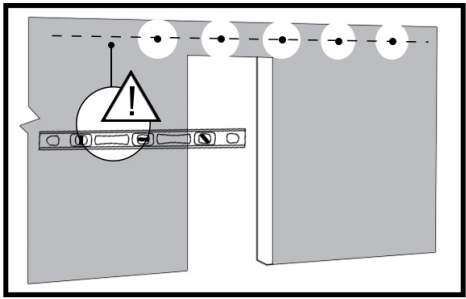

FIGURE 9
- Place the track in position using the marks made in the previous step, and ensure the track is level. Using the track as a template, mark the mounting hole locations with a pencil (see FIGURE 9).